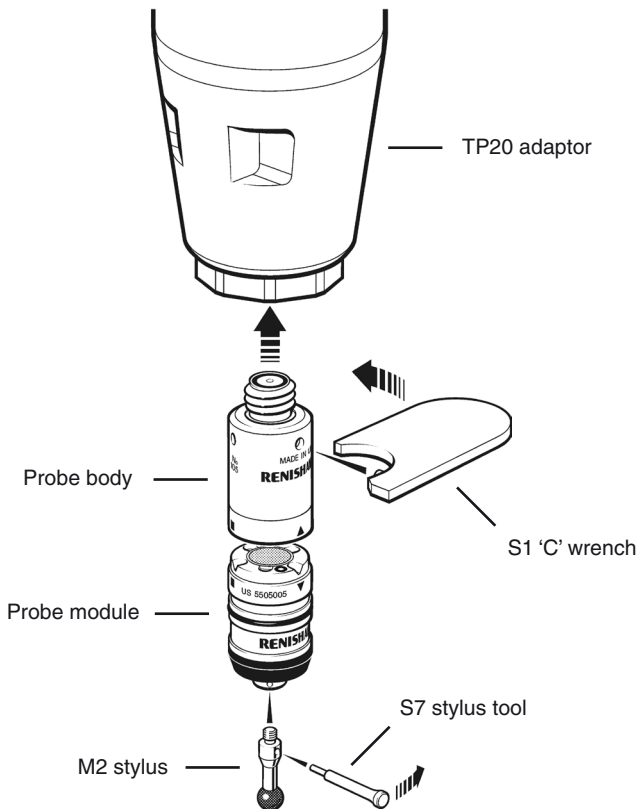

Figure 3 - Fitting the TP20 probe onto the FARO adaptor
To fit the TP20 probe carry out the following procedure (see figure 3):
2. Fit the S1 'C' wrench (supplied) onto the probe body as shown in Figure 3.
To fit a stylus onto the probe module, carry out the following procedure (see figure 3):